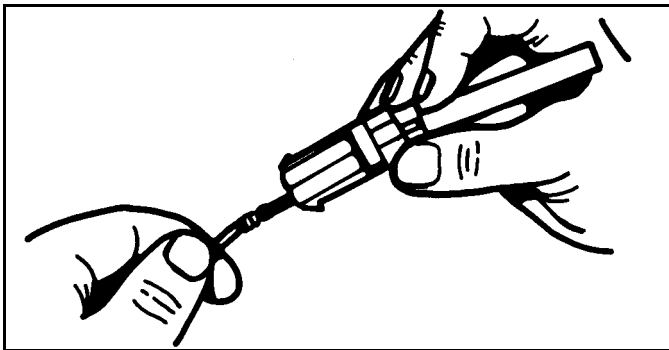

Figure 3-16
4. Hold the removal tool fully seated and pull wire from connector body. (See Figure 3-16)